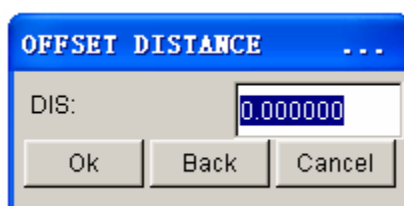

Figure 5.1.12 Offset Distance dialog box
- Enter a positive offset distance in input field of the Offset Distance dialog box as illustrated in Figure 5.1.12.